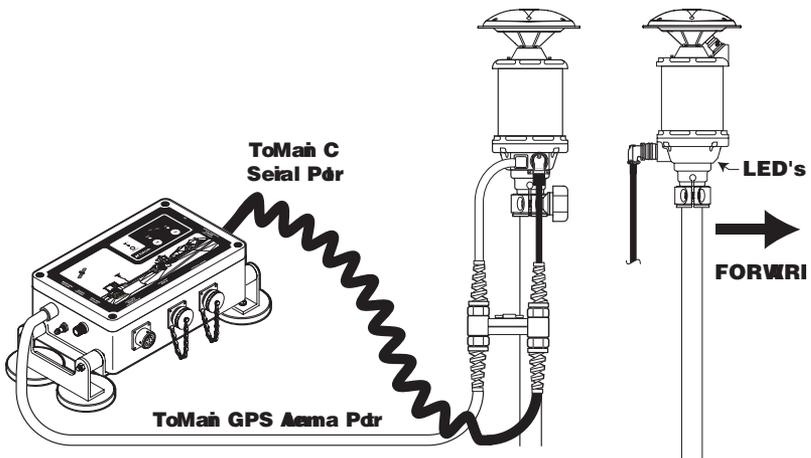

Figure 3-7. Mount Receiver and Connect Cables
2. Connect the antenna cable and serial cable to the receiver (Figure 3-7).
3. At the MC-2.5 Receiver Box, connect the antenna cable to the Main GPS antenna port and the serial cable to the Main C serial port (Figure 3-7).